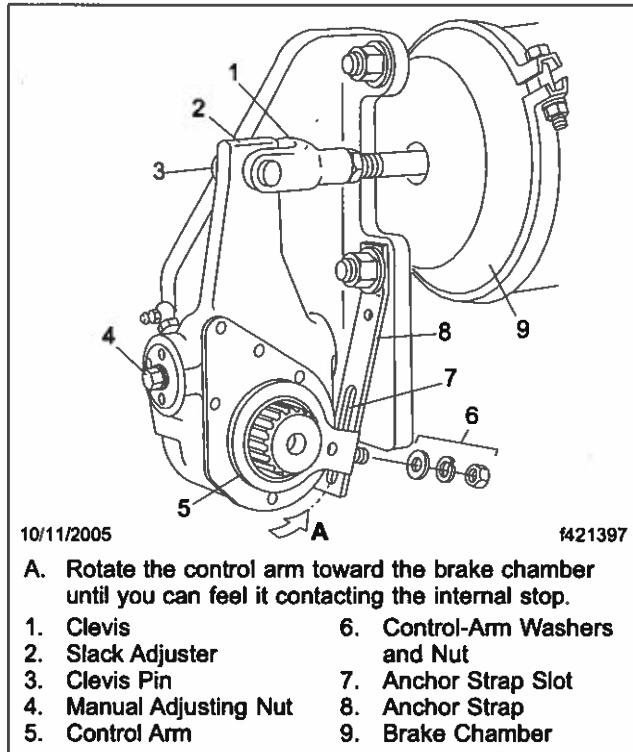

Fig. 11.10, Haldex Automatic Slack Adjuster
- 24.3 **Haldex Slack Adjusters:** Inspect each slack adjuster and anchor strap for damage. See Fig. 11.10. Have any damaged components replaced.